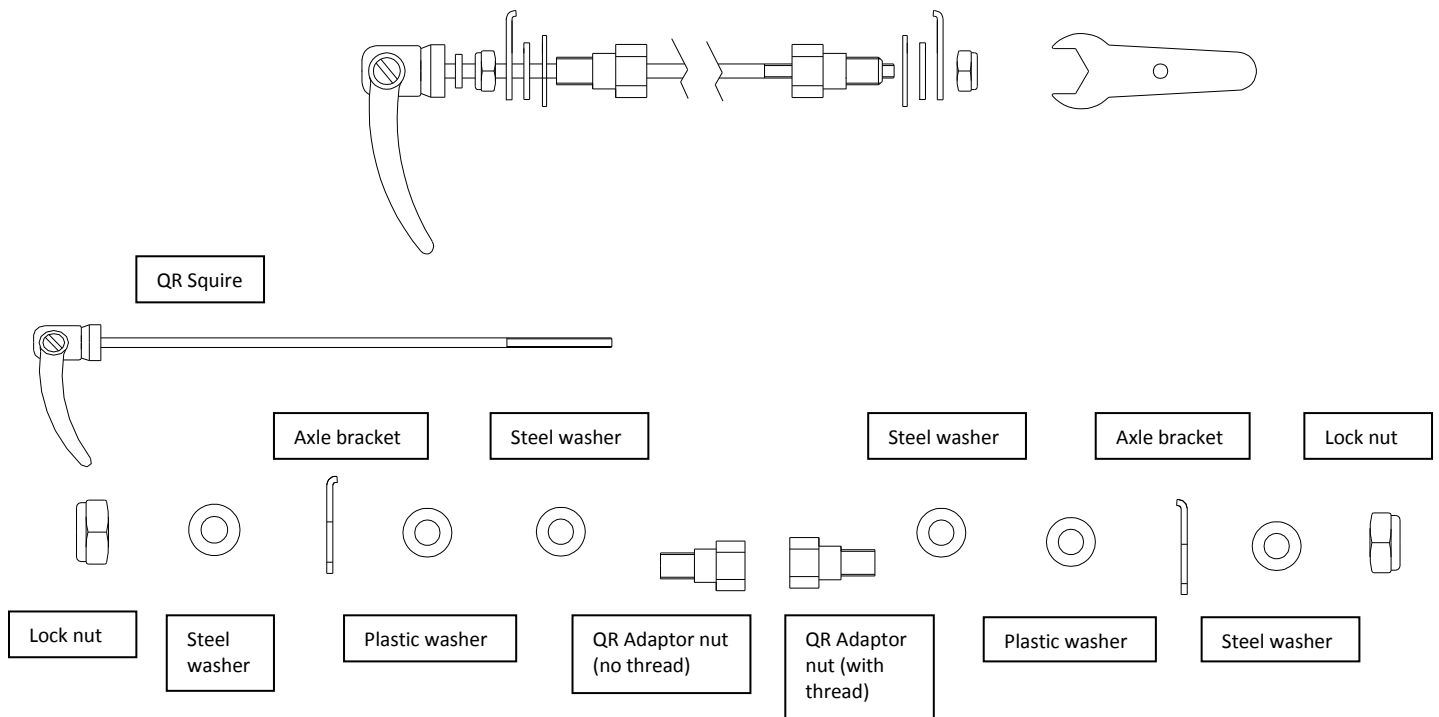

Figure. 5 Quick Release components and assembly
- G) Replace the existing quick release on your bicycle with the Maya Cycle Quick Release (QR) set. Use the lock nuts, steel washers, axle brackets and plastic washers from the Maya Cycle adaptor nuts and place them on the Maya Cycle QR Squire as per sequence in Fig 5 shown below. Use your bicycle's quick release springs if they are needed.